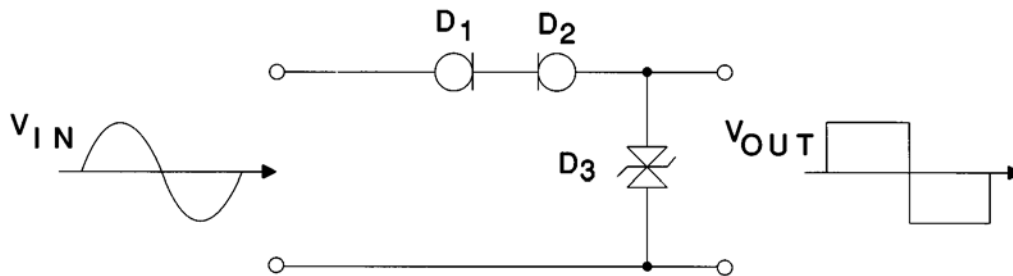

Figure 14. Square-Wave Generator
**Square-Wave-Generator**—A simple sine to square-wave generator can be built using two CLDs back-to-back, as shown in (Figure 14).